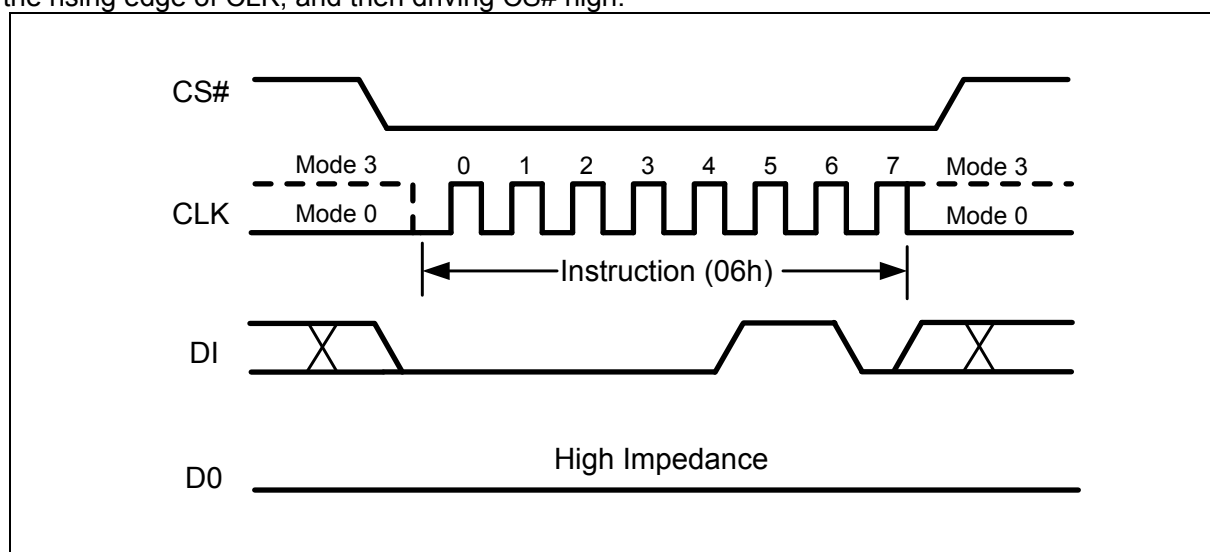

Figure 5 Write Enable Instruction
Instructions vary in length from a single byte to several bytes and may be followed by address bytes, data bytes, dummy bytes (don't care), and in some cases, a combination. Instructions are completed with the rising edge of edge CS#. Clock relative timing diagrams for each instruction are included in Figure 5 through Figure 20. All read instructions can be completed after any clocked bit. However, all instructions that Write, Program or Erase must complete on a byte boundary (CS# driven high after a full 8-bits have been clocked) otherwise the instruction will be ignored. This feature further protects the device from inadvertent writes. Additionally, while the memory is being programmed or erased, or when the Status Register is being written, all instructions except for Read Status Register will be ignored until the program or erase cycle has completed.
The Write Enable (WREN) instruction (Figure 5) sets the Write Enable Latch (WEL) bit in the Status Register to a 1. The WEL bit must be set prior to every Page Program, Sector Erase, Block Erase, Chip Erase, Write Status Register instruction. The Write Enable (WREN) instruction is entered by driving CS# low, shifting the instruction code “06h” into the Data Input (DI) pin on the rising edge of CLK, and then driving CS# high.